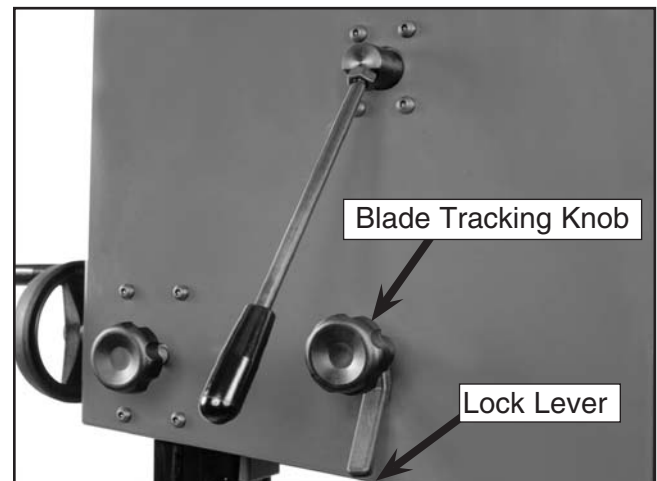

Figure 16. Blade lock lever and tracking knob.
5. Loosen the lock lever (**Figure 16**) on the blade tracking knob.